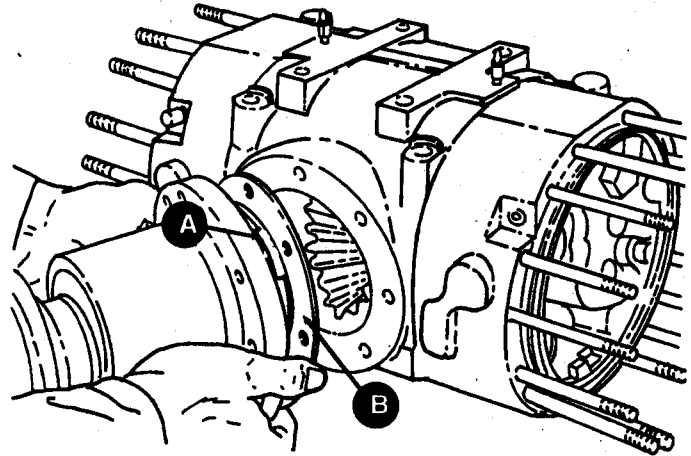

Figure 14.
16. Oil scoop A, Figure 14, must be located at the top when installing pinion housing to center casing. Select thickness of pinion housing shim B by completing the calculation below.